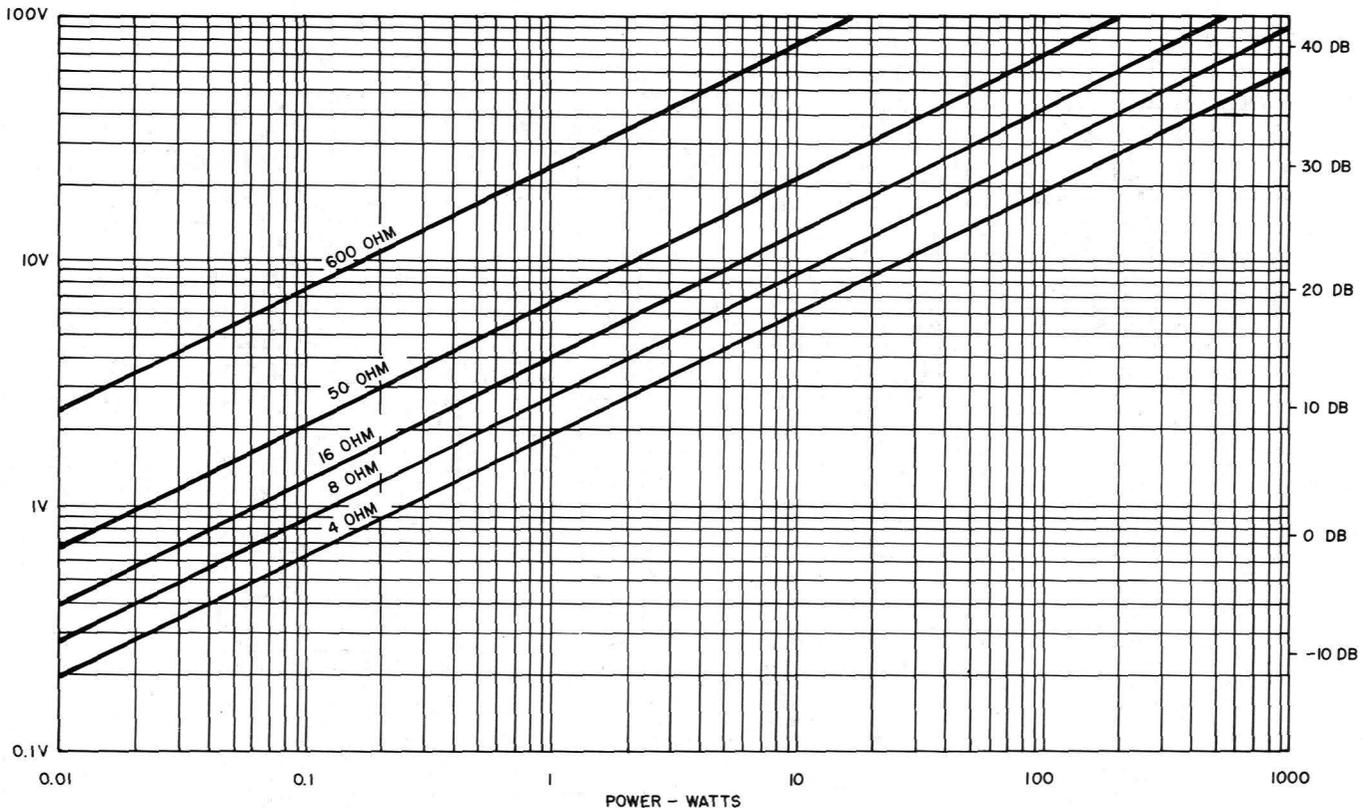

Fig. 4—Voltage vs Power
**3.24** Refer to Fig. 4 for converting the dB reading into watts.